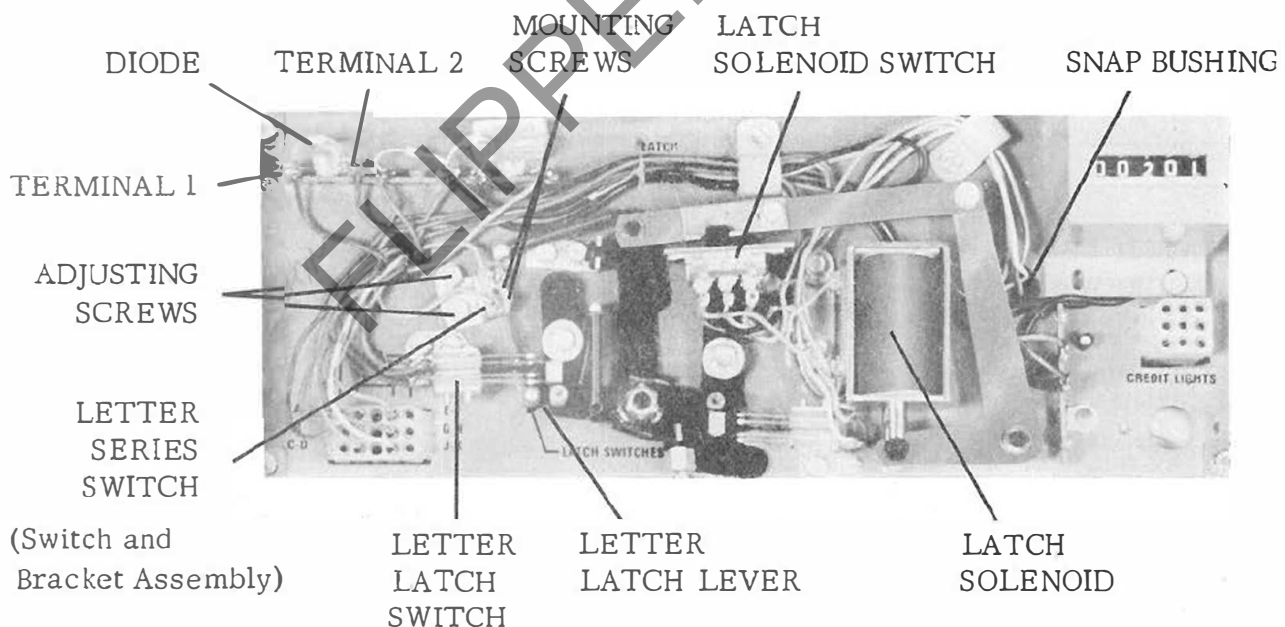

Figure 2
1. Install Switch and Bracket Assembly, Part No. 66007, on mounting plate of Selector Switch Assembly, with two Screws, Part No. 76902 -34, as shown in Figure 2. DO NOT tighten Screws at this time.
3. Connect this wire to TERMINAL 1 on Terminal Strip as shown in Figure 2. DO NOT solder at this time.
5. Route this wire through Cable Clamp and connect end of wire to TERMINAL 2 on Terminal Strip as shown in Figure 2. DO NOT solder at this time.